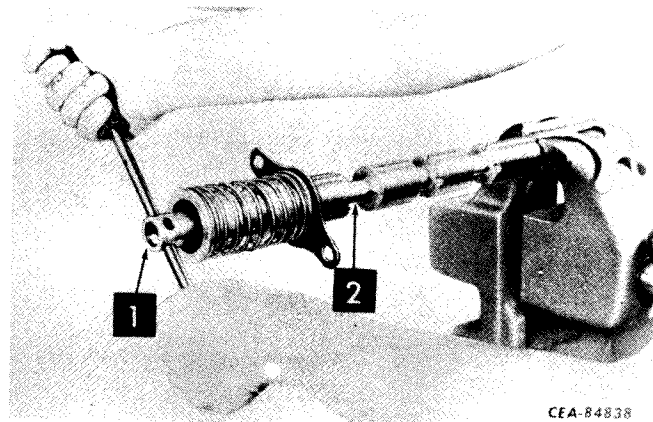

Figure 11-47
Place eye end of plunger in vise with protective jaws. Remove plunger pin (1, Fig. 11-47) from plunger assembly (2) using a rod of the approximate diameter as the holes in the end of plunger. Use caution to prevent damage to the holes.